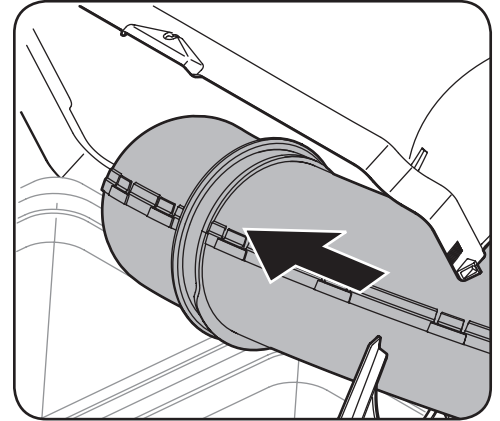

Figure 4-17
2. With the grass catcher cover open, install the upper discharge chute through the discharge chute opening, as shown in Figure 4-17.